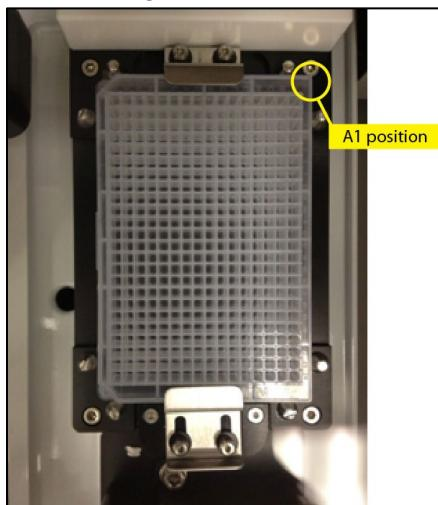

Figure 40. Sample source plate on the plate nest.
3. Place the 384-well source plate on the plate nest with the A1 position in the top, back right corner, as shown in Figure 40.